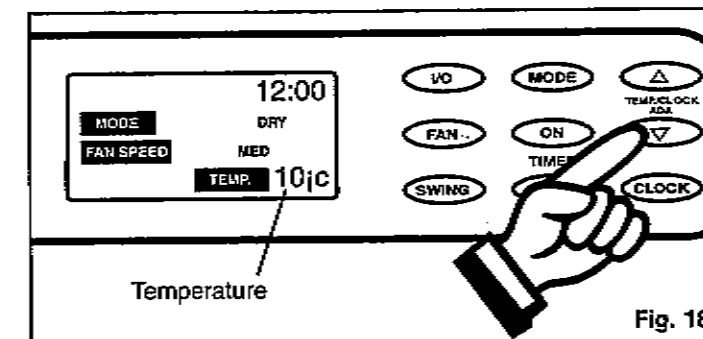

Fig. 18
- 3) Press the appropriate Δ or ∇ key to set a dehumidifying temperature between 10°C (48°F) to 30°C (88°F). *Fig. 18.* The green indicator light will come on indicating the dehumidifying mode is operational (there may be a slight delay of 10-30 seconds before the cycle begins, this is normal).